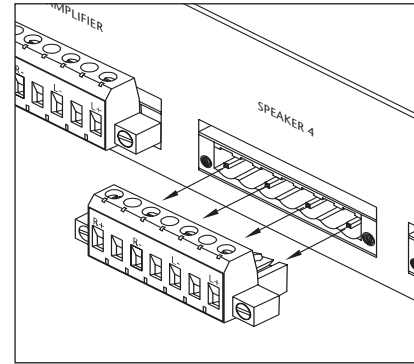
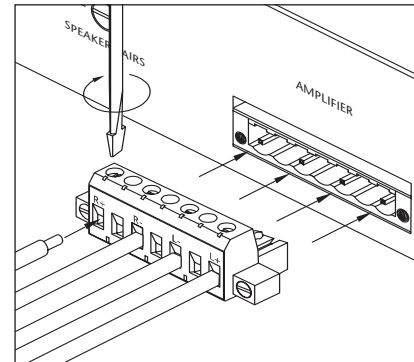

Figure 3
Figure 4
3. Make the connections to the speaker selector. The amplifier/speaker connectors on the HPS are removable. If you wish, you may remove the HPS's connectors to facilitate installation see (Figure 3). Strip 3/8" of insulation from the end of each wire. Tightly twist the end of each wire until there are no frayed ends. Insert each wire into the appropriate hole on the connector terminals. Be certain that proper phasing is observed—connect the positive terminals on the HPS to the positive terminals on the amplifier and speakers and the negative terminals on the HPS to the negative terminals on the amplifier and speakers. Re-install the connectors if they were removed. See (Figure 4).